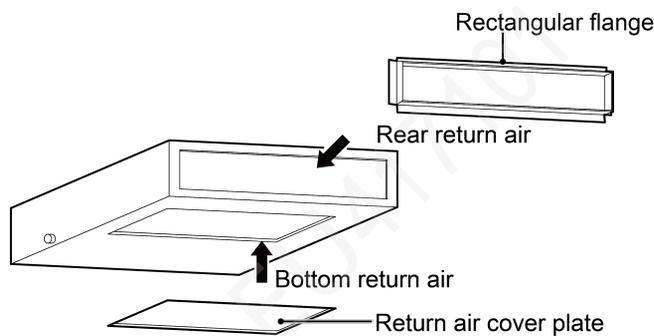

Fig.4.4.5
(1) The default installation location of the rectangular flange is at the back and the return air cover plate is at the bottom, as shown in Fig.4.4.5.